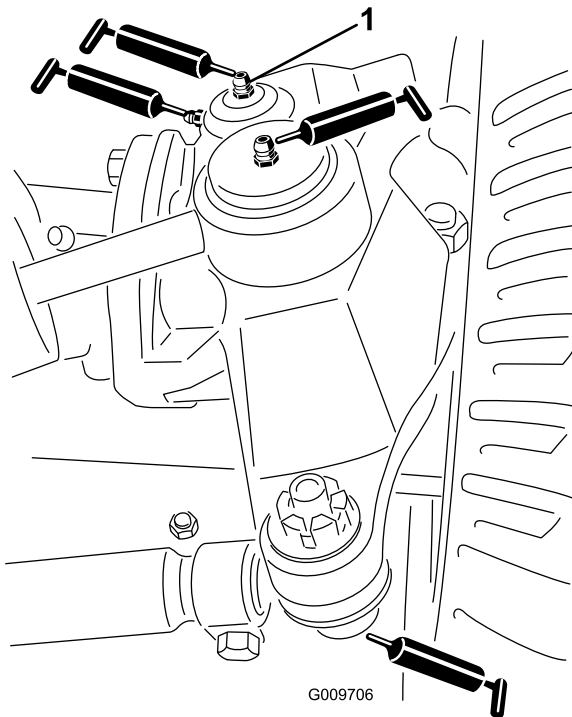

Figure 40
- Steering-cylinder ball joints (2) as shown in Figure 40
- Tie-rod ball joints (2) as shown in Figure 40
- Kingpin bushings (2) as shown in Figure 40